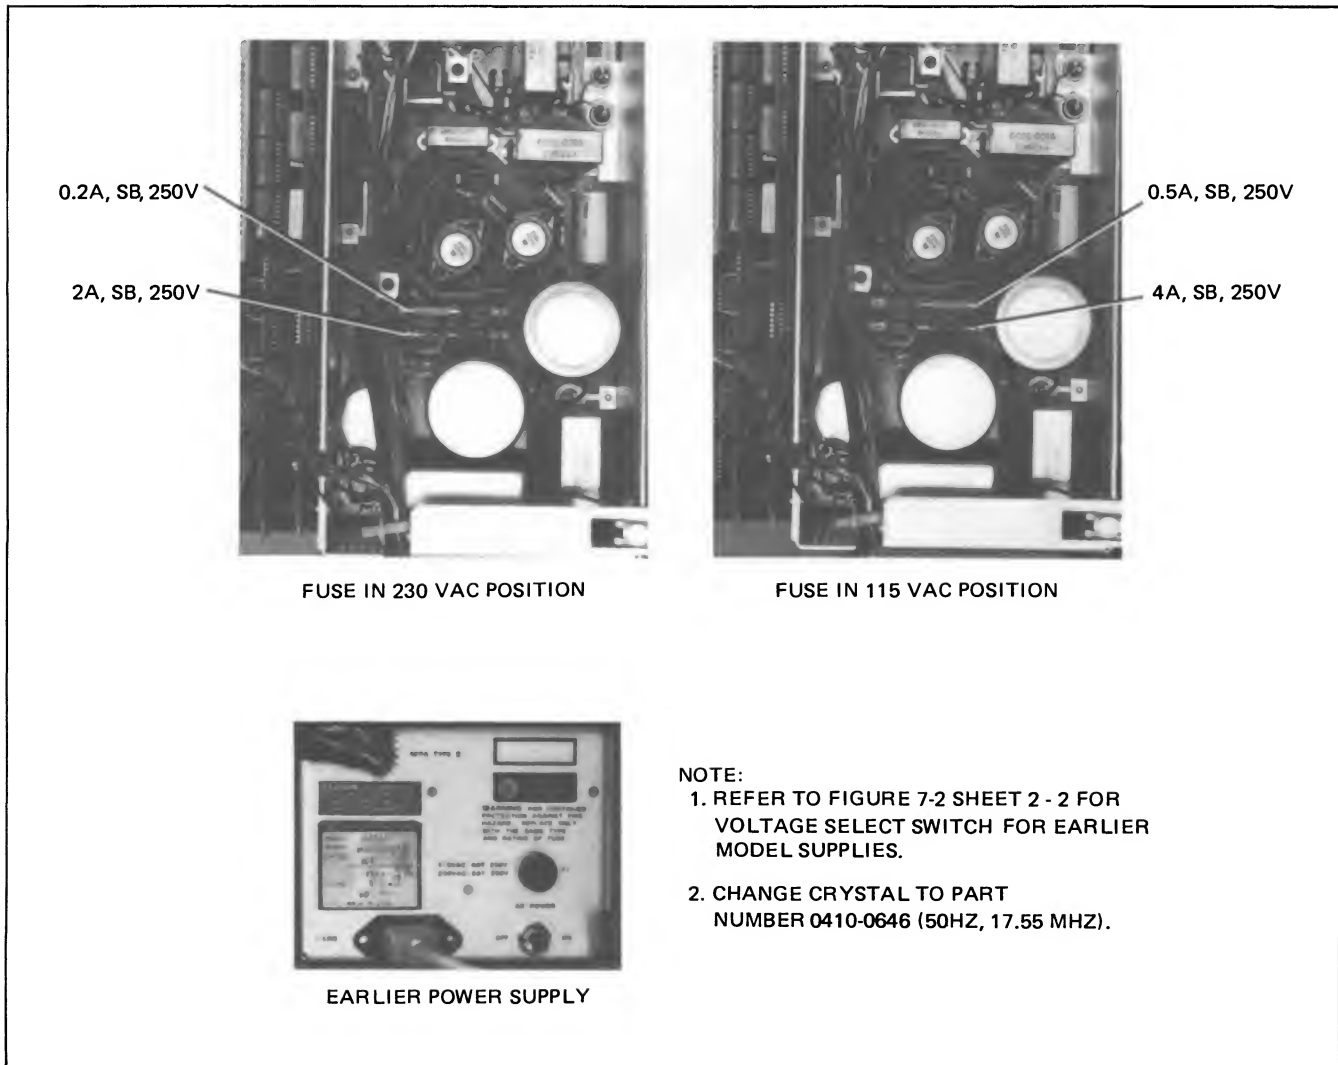

Figure 7-4. Fuse Positions for 115 VAC and 230 VAC Line Voltage
3. ( ) Select the operating voltage by inserting the proper fuses into the appropriate locations shown in figure 7-4. For 115 volts, use a 0.5A, SB, 250V fuse and a 4A, SB, 250V fuse. For 230 volts, use a 0.25A, SB, 250V fuse and a 2A, SB, 250V fuse.